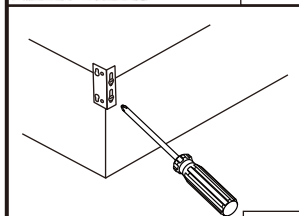

Fig 2-2
4. Adjust hangers of both sides, hang on machine onto wooden screw. (Fig2-2)